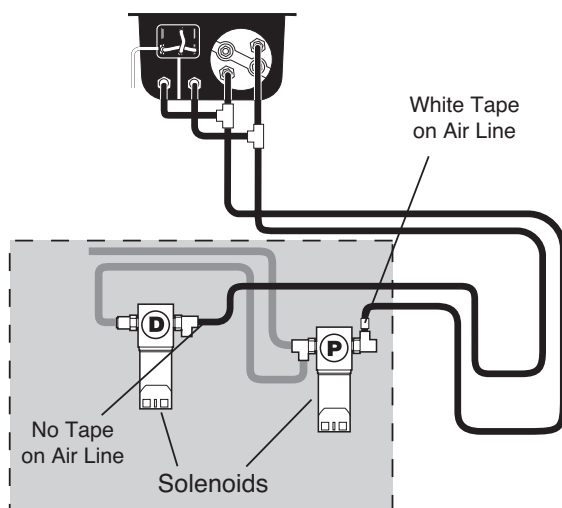

fig. 24
2. Install remaining length of air line into open leg of the tee previously installed between the air spring and the inflation valve. Route the air line along the frame and secure with nylon tie straps (M) to the solenoid (Fig. 24 - see next page).